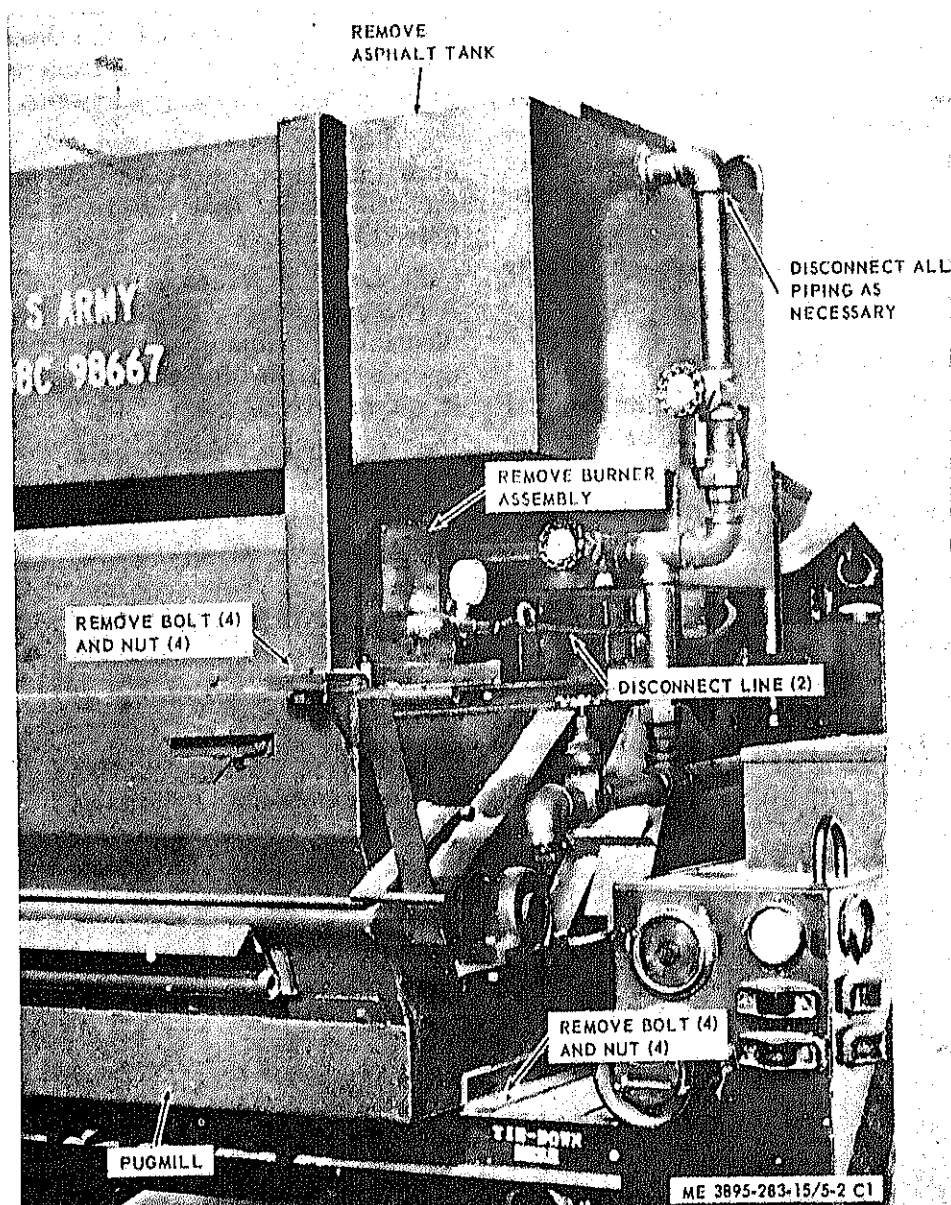

Figure 5-2. Pugmill, removal and installation.
Paragraph 5-18 and figure 5-2 are added as follows:
- a. Removal. Remove the pugmill as illustrated in figure 5-2.
b. *Installation.* Install the pugmill as illustrated in figure 5-2.